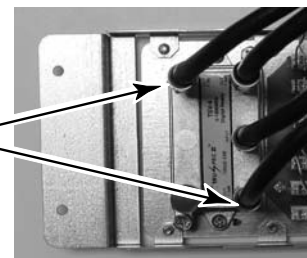

Figure 3
Once the incoming video service is connected to the rear of the distribution plate connect the coax cables, which run from the rooms, to the four (4) output connections on the front of the distribution plate. See Figure 3.